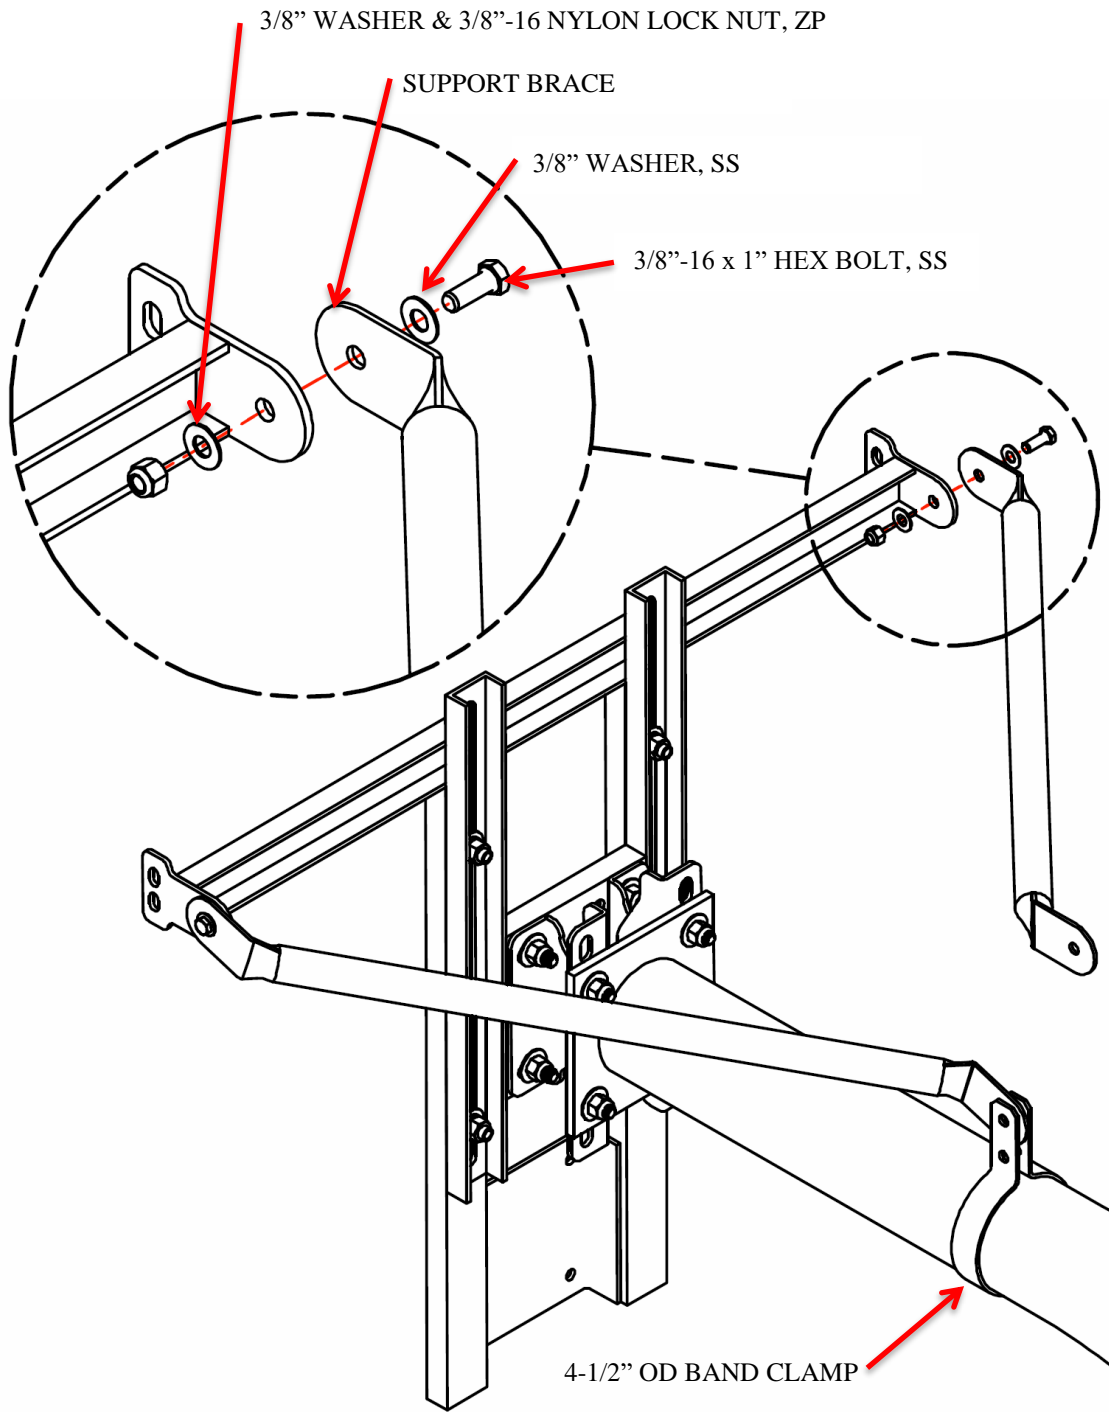

Figure 8
3. Assemble the two brace as shown (Figure 8). Maintain the plumb while assembling the band clamp to the upright pipe with 3/8" hardware. Lock the plumb in place by drilling 1/4" self-tap hex head screw into two sides of the band clamp & upright pipe as shown (Figure 9).